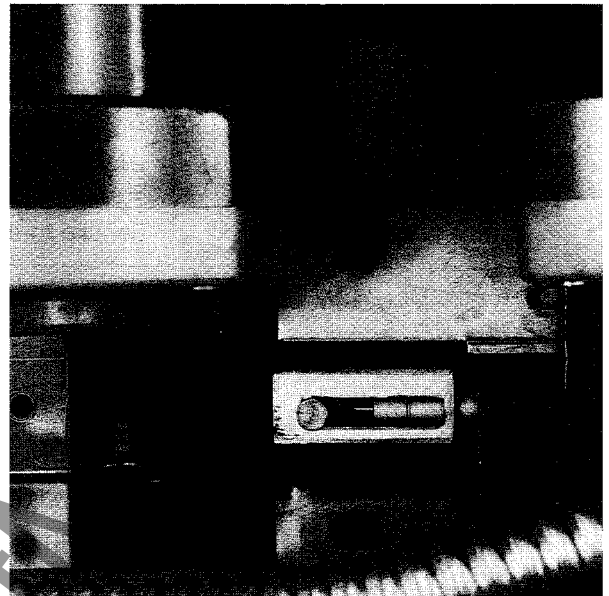

Figure 39: Cross link removal
10. Remove the retaining clip securing the cross link to the pole unit; remove the cross link (figure 39).